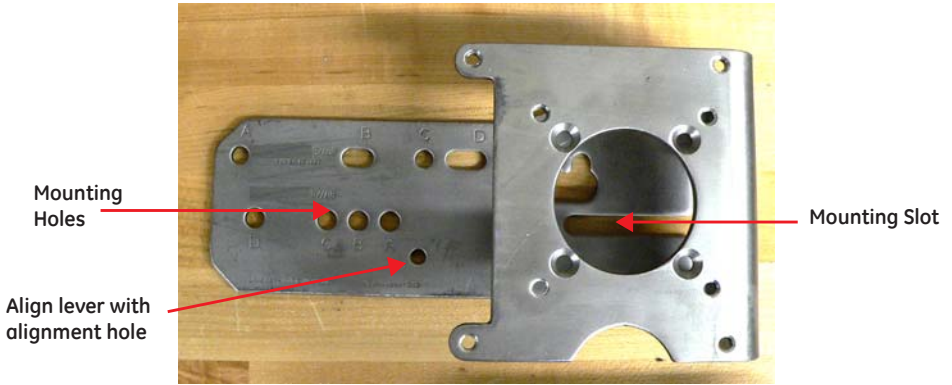

Figure 15 Ensure Position Linearity
12. Ensure the adjustable link turnbuckle is parallel to the valve stem. Verify that the hole in the lever aligns with the alignment hole in the bracket when the valve is in the closed position. Check that the bracket is mounted using the proper holes (Figure 15).